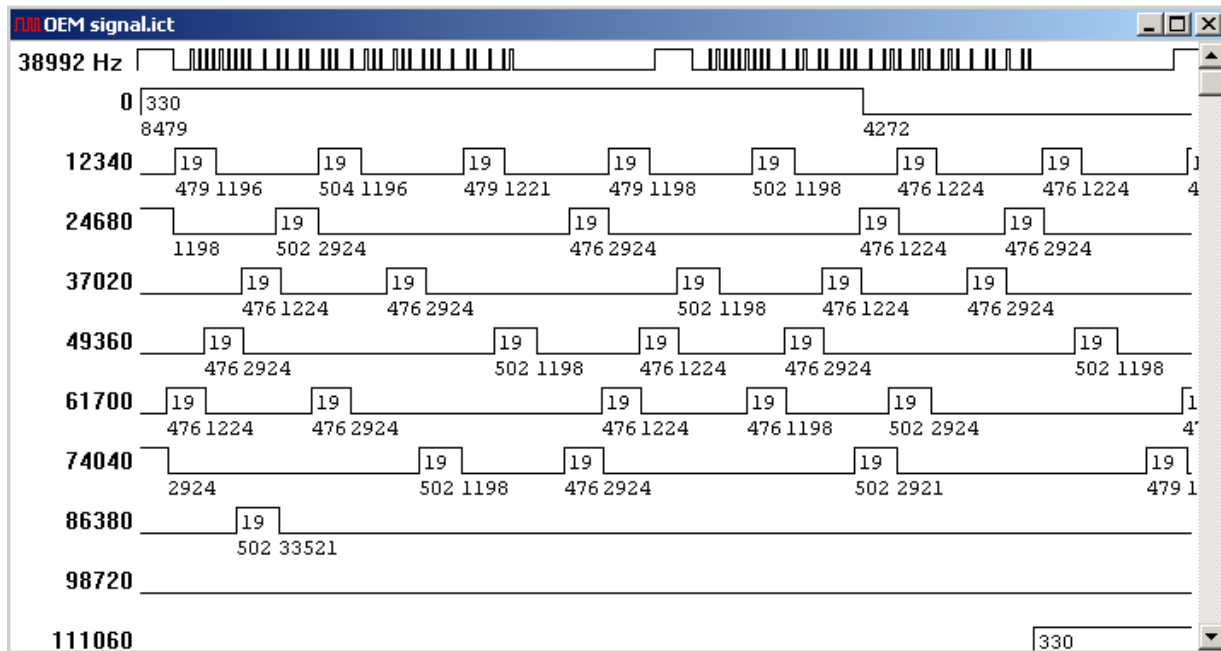
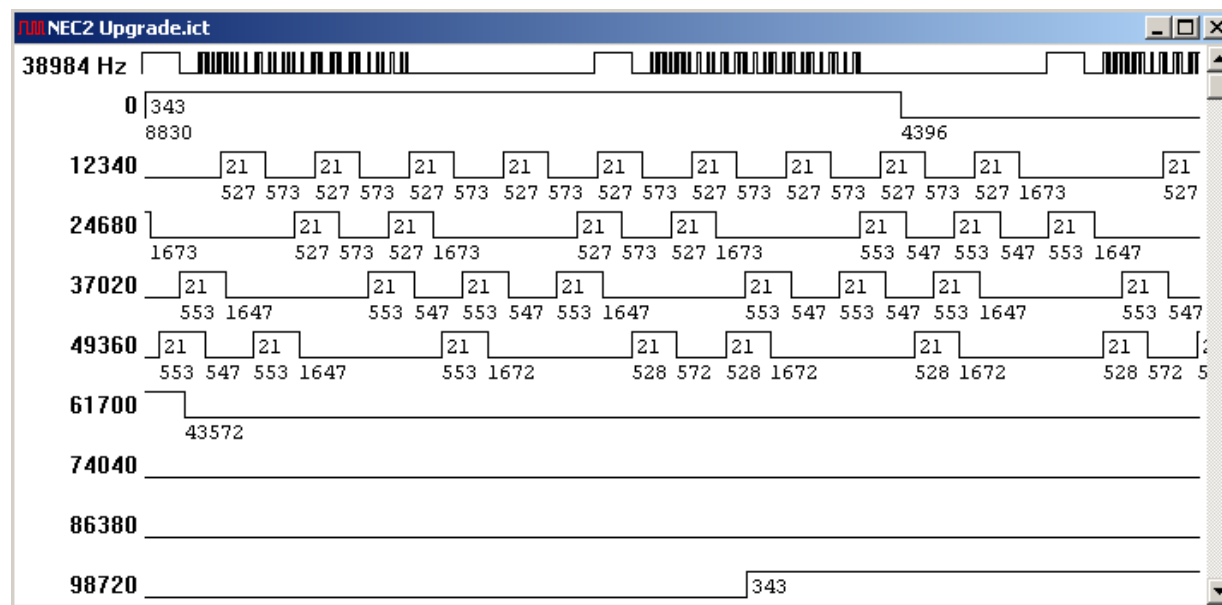

Figure 25. OEM Signal
Figure 26. NEC2 Upgrade Signal
If the thumbnails had not made the problem so evident, I would have looked for more subtle timing problems by comparing the detail portion of the waveform. The OEM signal waveform, Figure 25, shows a typical variance in the pulse timings. We need to do some rounding here to get numbers we can work with. Generally timings with values within 50uS are considered to be equal.
When building a protocol executor in Protocol Builder (PB), I would use the rounded timings from the waveform to create an executor. I would use the following values to create the OEM signal shown in fig.25.
The OEM signal (fig.25)
If you are not familiar with IRP, you could just compare the rounded timing values from both the OEM signal's waveform in Figure 25, and the NEC2 upgrade signal in Figure 26.
The Nec2 Upgrade signals (fig.26)